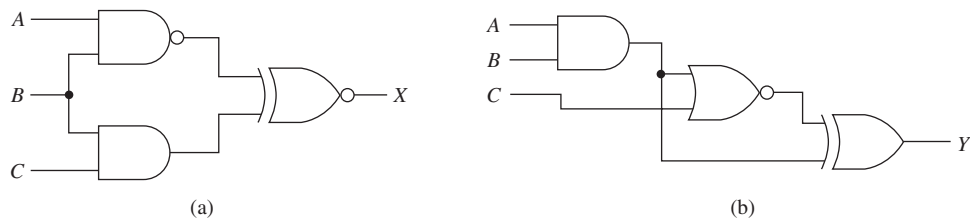

Figure P6-8
- C 6-8.** Repeat Problem 6-7 for the circuits of Figure P6-8.